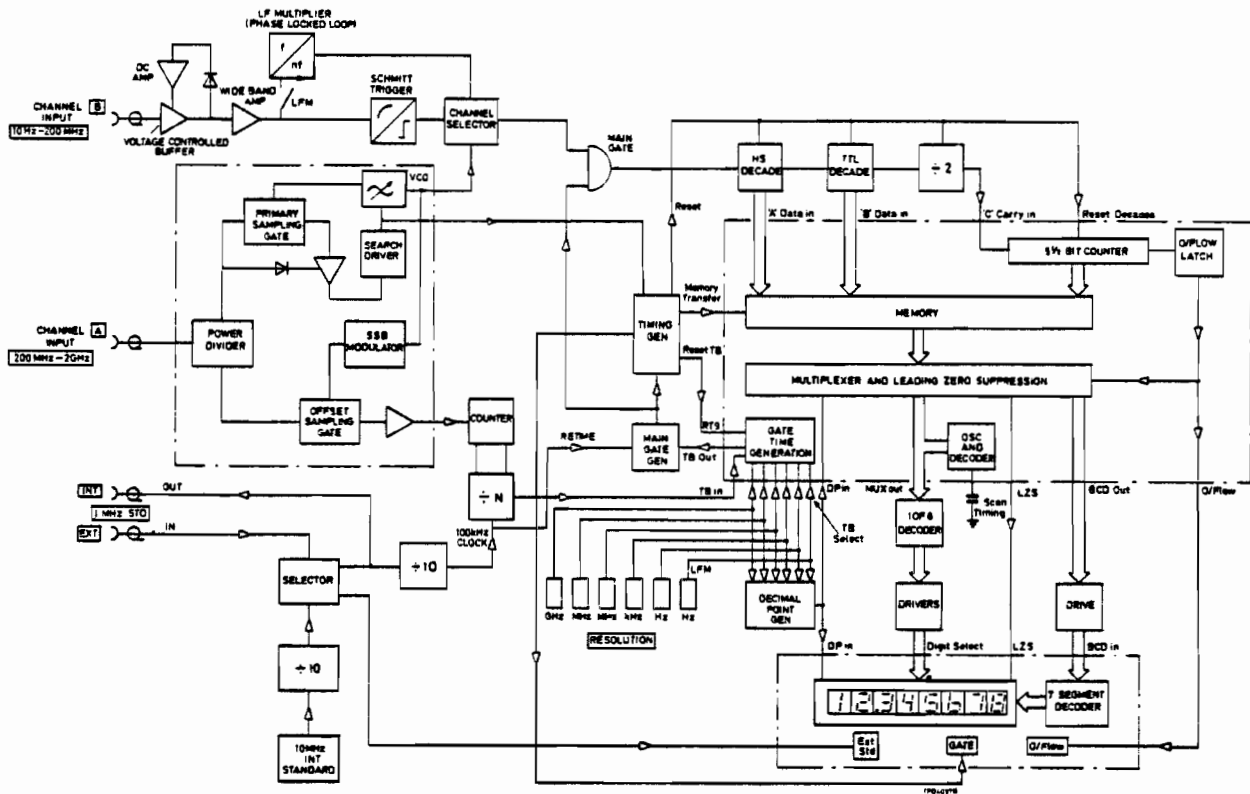

Fig. 1 2435 Simplified block diagram
3. A simplified block diagram of the frequency meter is given in Fig. 1. Inter-connection wiring details are shown in Chap. 7, Fig. 1. Circuit diagram references are included with the following descriptions.